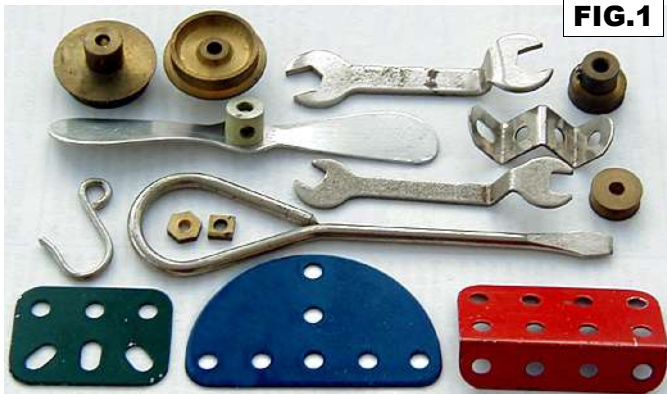

FIG.1
• The 1924 **ERECTOR Car Truck** had the top hole raised compared to the STEEL ENGINEERING pattern (see 23/666), and then in 1926 the original hole was restored giving 2 holes at the top. [Referring to *Greenberg*, this last pattern was shown in the Illustrated parts (Fig.1) for 1924-
5. From Jack Little. • On the **Day patent** (22/637), Jack sent a copy of the original Australian patent (No.6000/22, accepted 27th Nov. 1922), with added changes to the figures arising from an Application for Amendment on 5th August, 1924. The text is similar to the UK version but not identical and the original figures differ too in detail. Fig.1 below shows